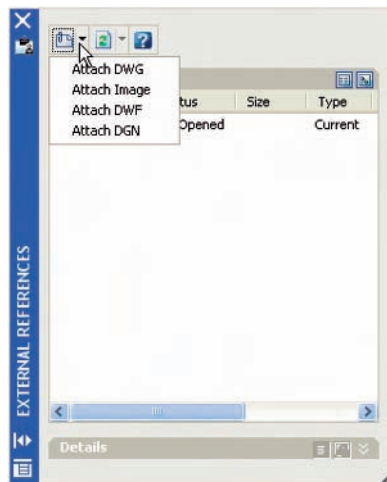

Fig. 10.13 The **EXTERNAL REFERENCES** palette
Example – placing a raster file in a drawing (Fig. 10.13)
3. In the **Insert** drop-down menu *click* **External References . . .** The **EXTERNAL REFERENCES** palette appears (Fig. 10.13).